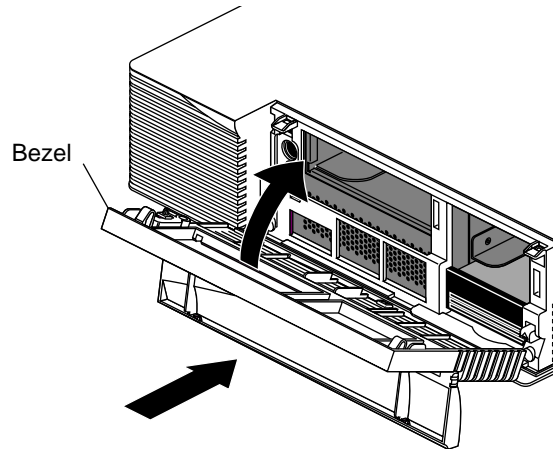

Figure 4-17 Replacing the Bezel
- Place the tabs on the bottom of the bezel in the grooves in the front of the chassis, as shown in Figure 4-17.